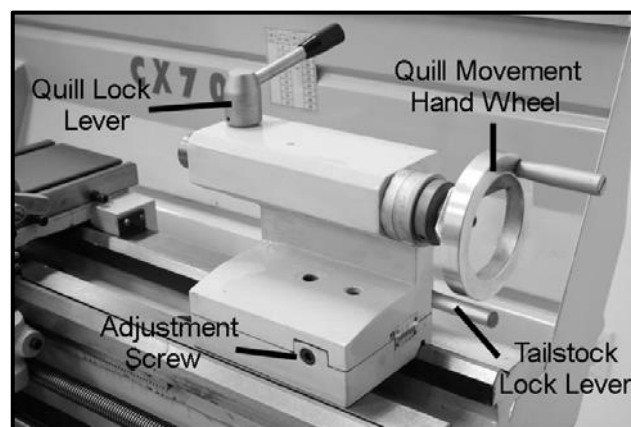

Figure-20 Tailstock controls
**TAILSTOCK HAND WHEEL:** Turning the hand wheel advances or retracts the quill in the tailstock. The graduated scale on the hand wheel is adjustable. See figure-20.
**QUILL LOCK LEVER:** This lock lever locks the quill in position when tightened. See figure-20.
**TAILSTOCK LOCK LEVER:** Turn this lock lever up to lock and down to unlock the tailstock in position on the lathe bed. See figure-20.